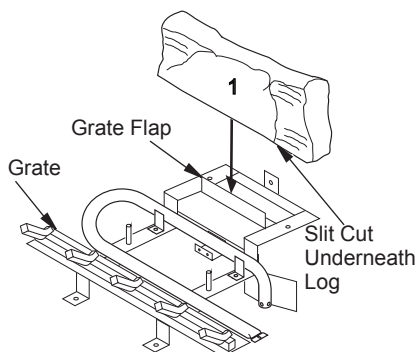

Figure 41 - Installing Log No. 1
1. Find and place log #1 (rear log). The log has a flat bottom with a slit cut into it to sit over the grate flap, (see Figure 41).